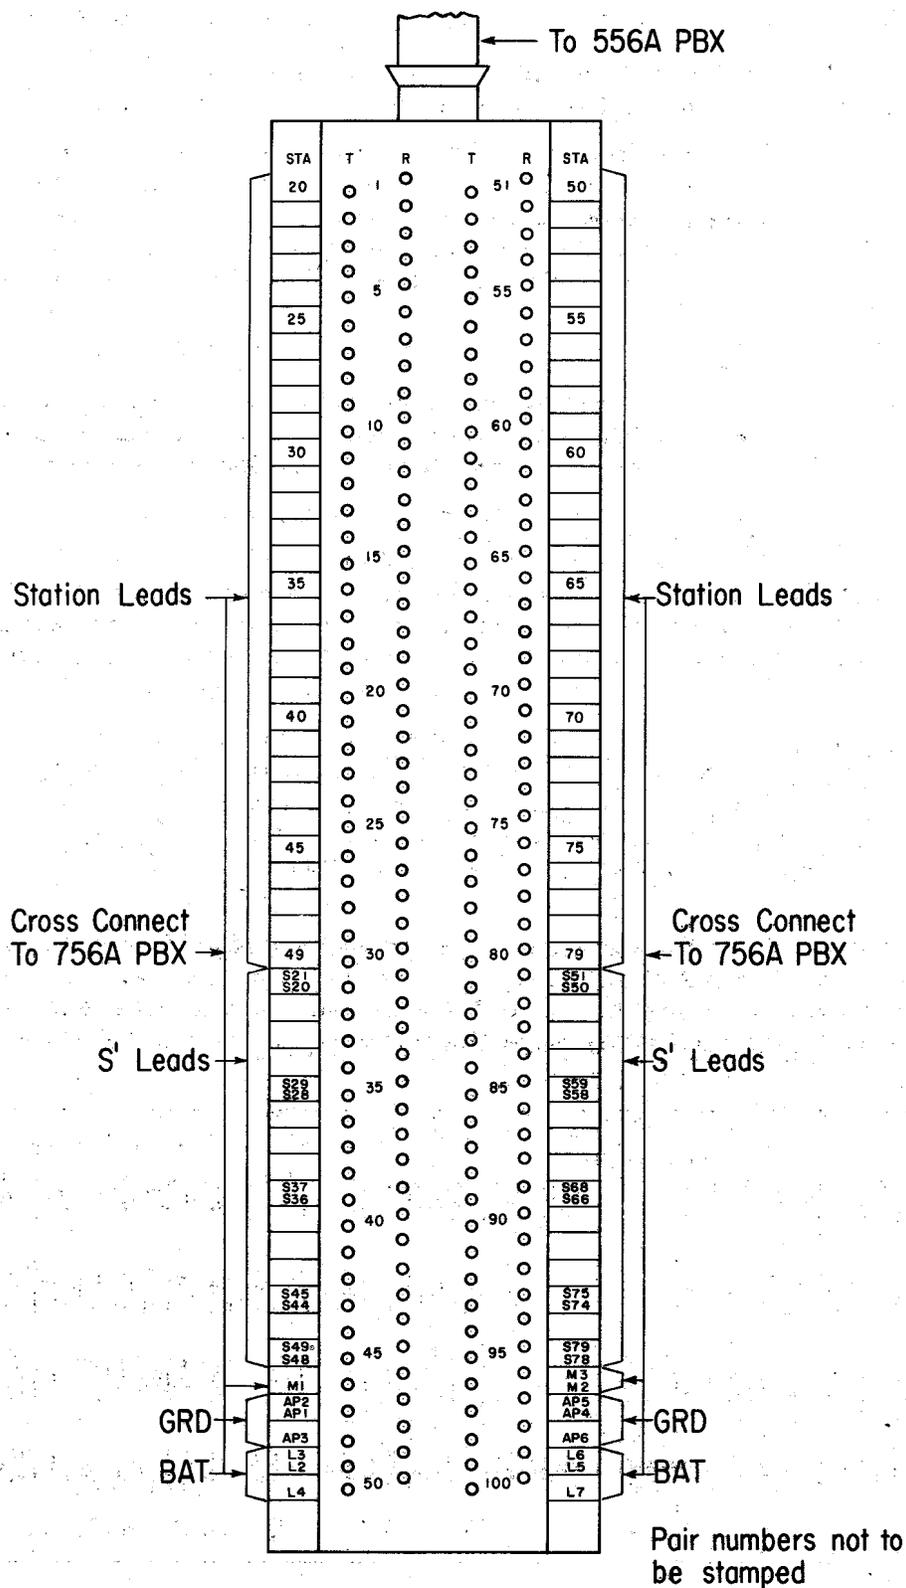

Fig. 6 — Typical Arrangement for Termination of 556A PBX Station Line House and Feeder Cable Using Binding Post Chamber
3.10 Run and fasten cables to the cross-connecting terminal box according to the standards in the Bell System Practices applicable and terminate the cables as shown in Fig. 6 and 7.
3.12 Letter and number the fanning strips as shown in Fig. 6 and 7 using 1/8-inch or 3/16-inch rubber stamps in accordance with Section B502.605. When connecting blocks are used which have the tip binding post above and to the left of the ring binding post, transpose the designations for single leads.